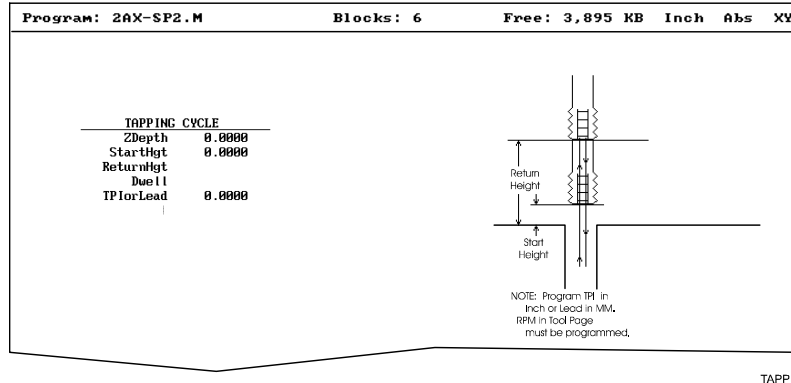

Figure 4-5, Tapping Cycle Graphic Menu
2. Highlight Tapping and press **ENTER** to display the **TAPPING CYCLE** Graphic Menu. Refer to **Figure 4-5**.